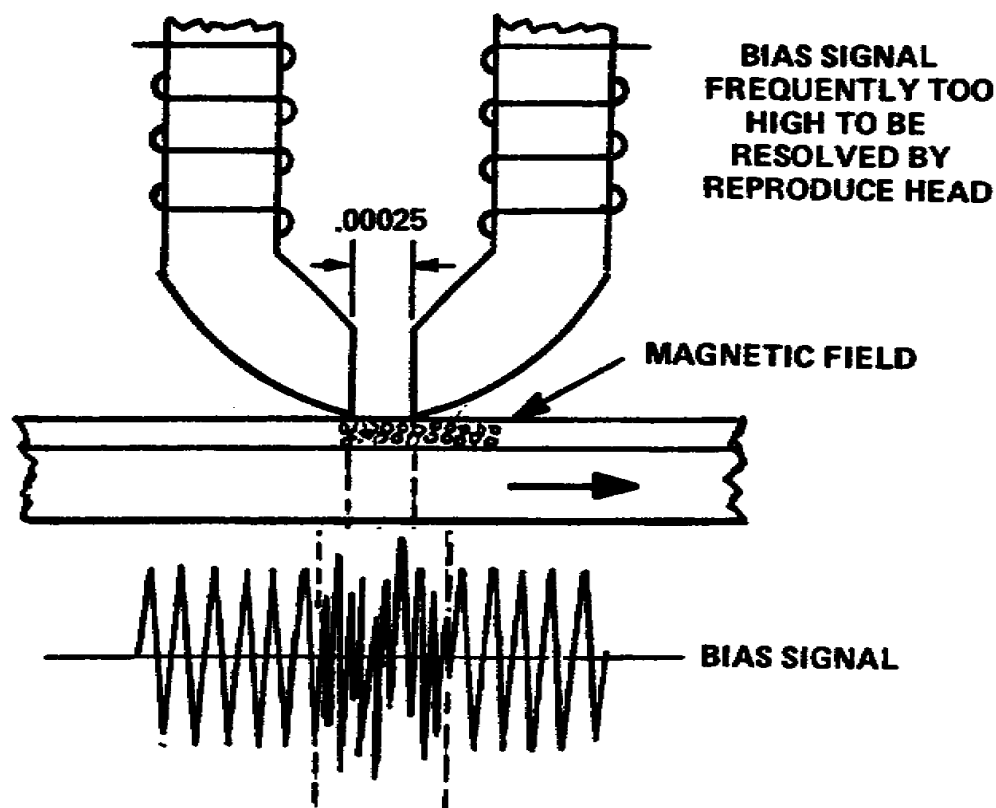

Figure 3-34. Reproduce head gap showing an audio signal and bias current combined on the tape
(1) A high frequency current several times that of the highest frequency to be recorded, is applied to a tape, along with the audio signal. This results in a signal or low distortion. The high frequency current, referred to as bias, also allows a higher signal-to-noise ratio.
(2) Bias combined with the audio signal and applied to the record head (fig 3-34), moves the audio signal in direct proportion onto the magnetic tape.
(3) The amount of critical bias current varies with different types of tape recorders. Usually the bias is adjusted to five times that of the highest audio frequency to be recorded, plus 5 KHz. Thus a tape recorder with a frequency response up to 15,000 cps requires a bias frequency (current) of at least 80 KHz. Higher frequencies of bias give better signal-to-noise ratios, on the average, than do lower bias frequencies. Too little bias results in high noise and distortion levels. Too much bias partially erases the high frequencies as they are recorded.